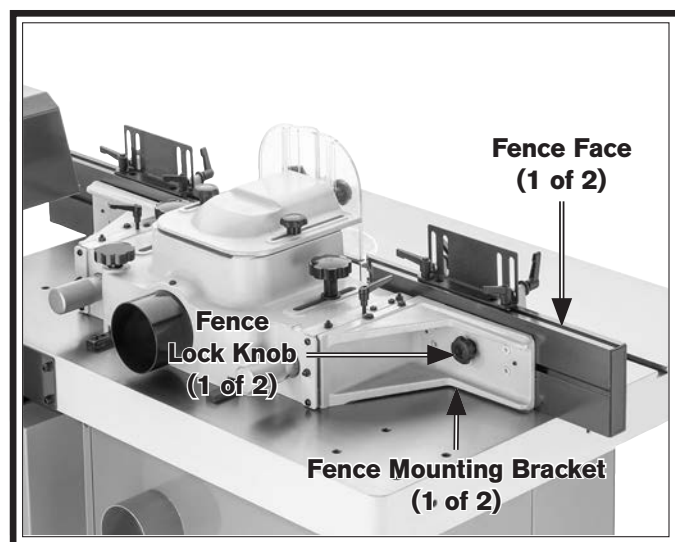

Figure 60. Fence face removal components.
2. Remove fence faces and mounting brackets from guard/fence base by loosening fence lock knobs (see Figure 60).